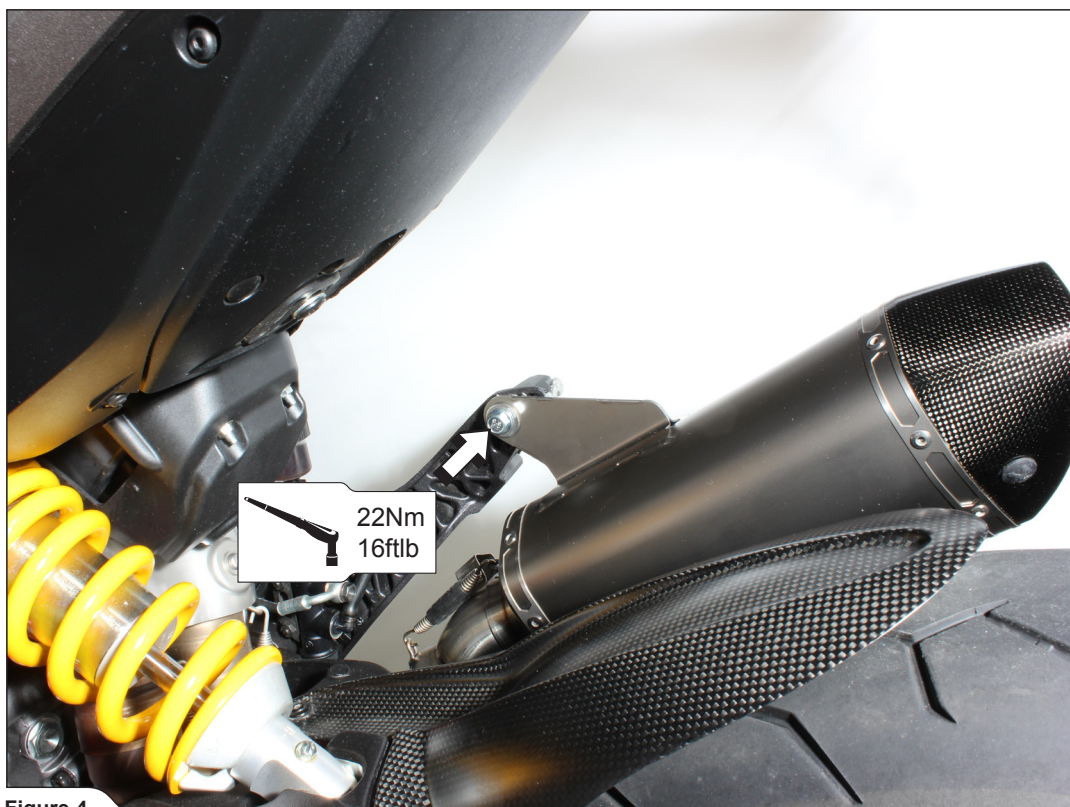

Figure 4
- Align the muffler in respect to the motorcycle and tighten the muffler's bracket bolt and stock clamp to the specified torque (**Figure 4, 5**).